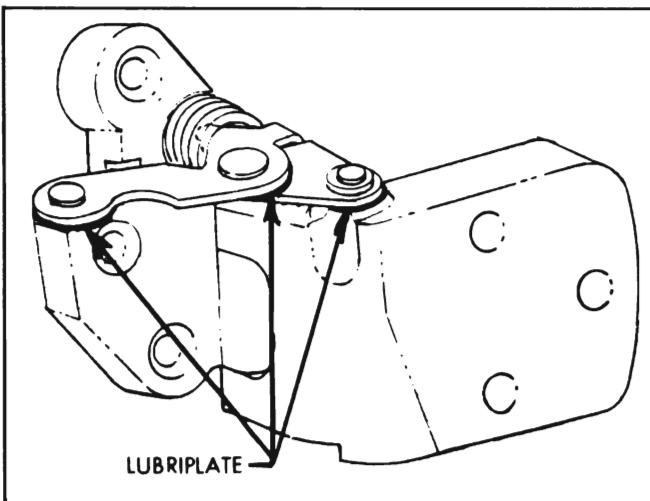

Figure 1-14—Lubrication of Rear Door Hinge and Hold-Open
12. Rear Door Hinge and Hold-Open. Wipe off dirt and apply one or two drops of Lubriplate at points indicated by arrows in Figure 1-14.